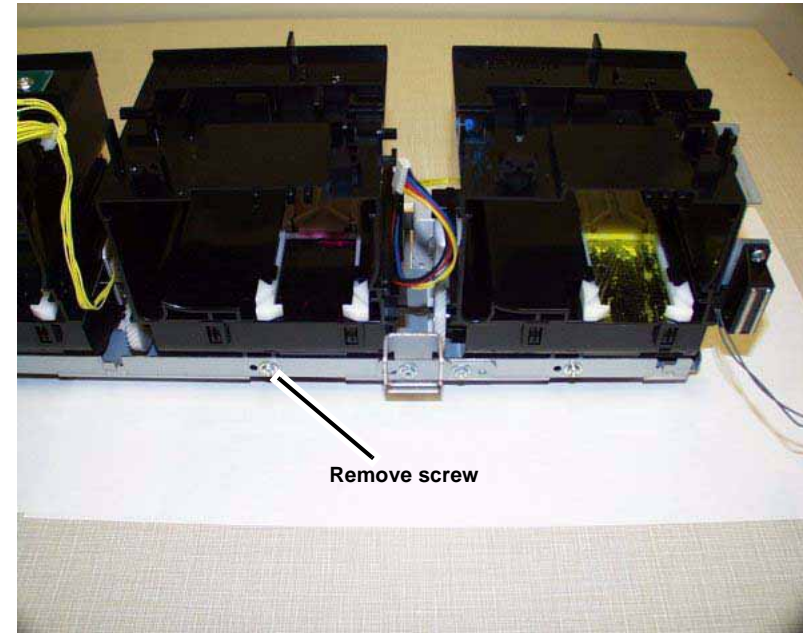

Figure 2 Removing the front screw
3. Remove the front screw (Figure 2).